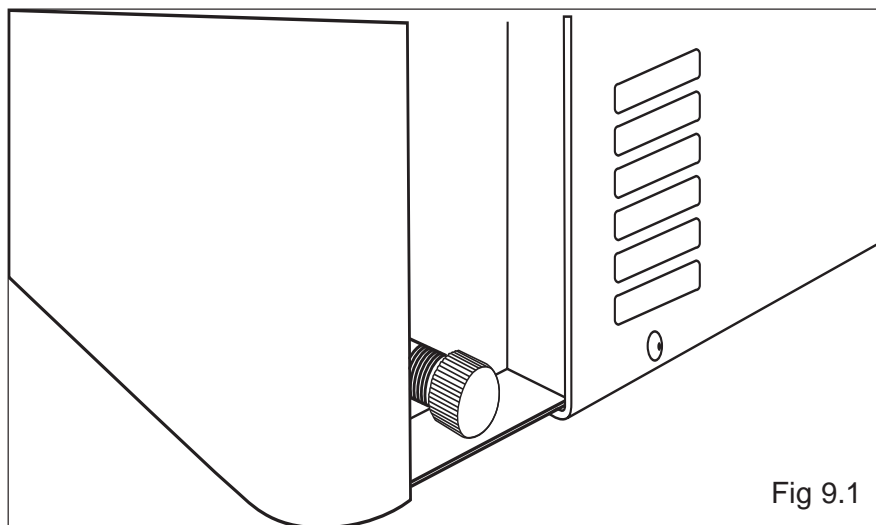

Fig 9.1
- Remove the drain cap (as shown in fig. 9.1).